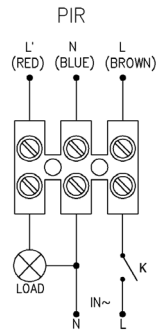

Fig.05
2. Pass the power wire through the hole with gasket in the bottom. Connect the power wire into the terminals according to the connection-wire diagram as shown in Fig.05.